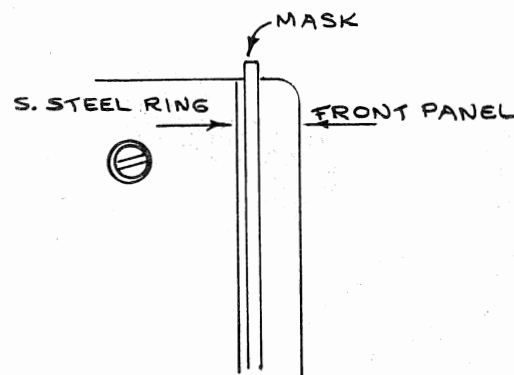

Fig. 5
- ( ) 7. Position the instrument so that the stainless steel ring on the instrument touches the mask all the way around the instrument (see Fig. 5).